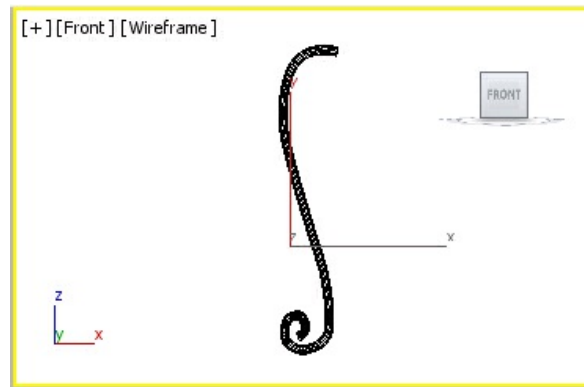

Figure 6-80 The line spline for the leg of stand
18. Create a line spline in the Front viewport, as shown in Figure 6-80. It uses the same parameters from the **Rendering** rollout that you had set earlier.